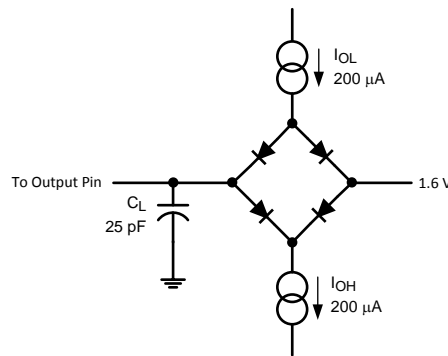

Figure 3. Timing Test Circuit
- (1) Measured with the timing test circuit shown in Figure 3 and defined as the time taken by the output signal to cross 1.0V.
- (2) Measured with the timing test circuit shown in Figure 3 and defined as the time taken by the output signal to cross 1.0V or 2.0V.
- (3)  $t_{DIS}$  is derived from the time taken by the outputs to change by 0.5V with the timing test circuit shown in Figure 3. The measured number is then adjusted to remove the effects of charging or discharging the output capacitance. This means that  $t_{DIS}$  is the true bus relinquish time, independent of the bus loading.